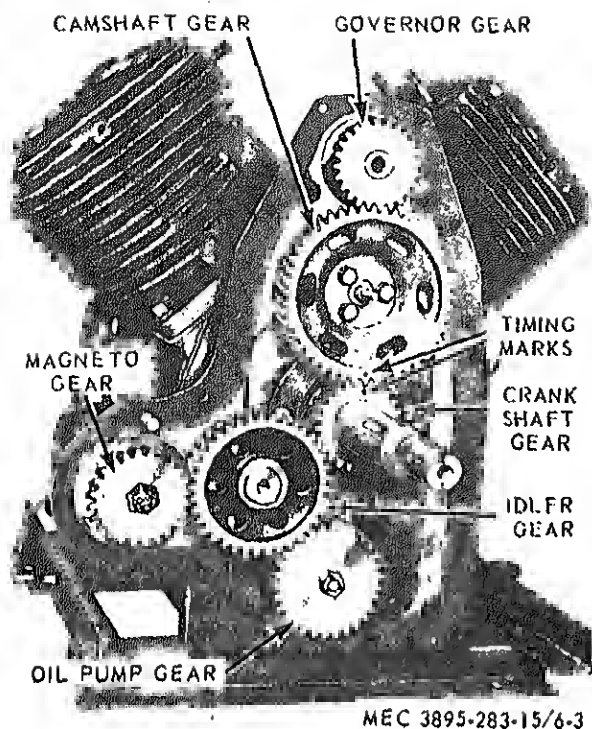

Figure 6-3. Exposed Gears.
Removal (fig. 6-3).
(1) The timing marks on the crankshaft gear and the camshaft gear must be matched (fig. 6-3).
(2) Mounting holes in main bearing plate are off-set in such a manner that it can only be mounted in the correct position. Tighten main bearing plate capscrews with 25 to 30 foot pounds torque.